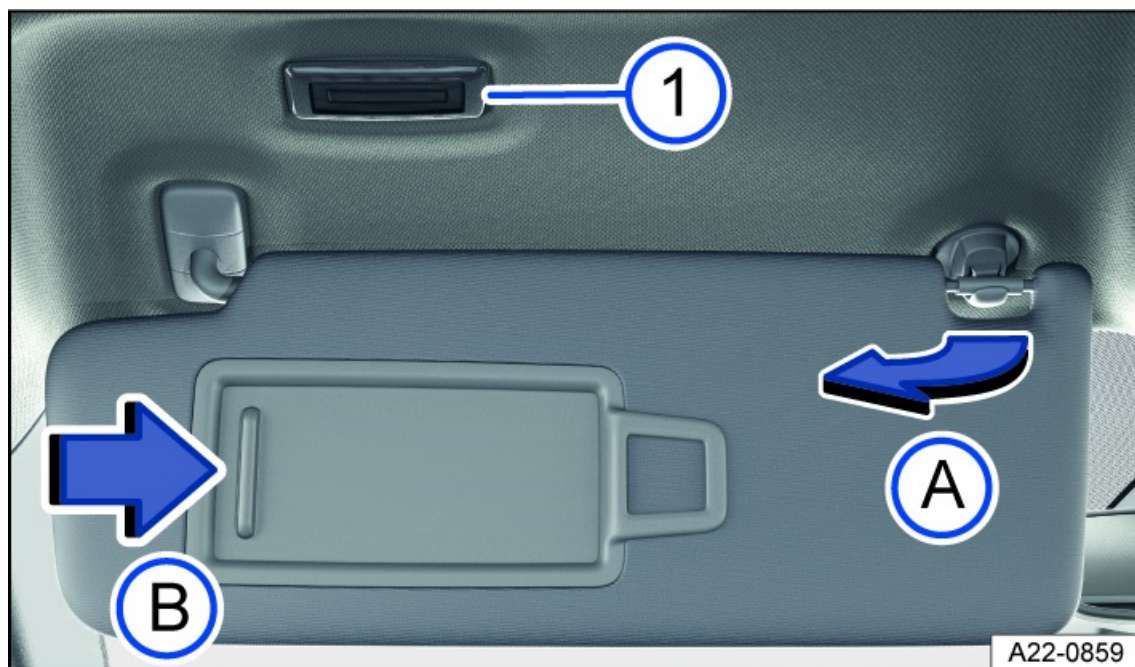

Fig. 110 In the front of the headliner: sun visor.
- Remove from the holder and tilt toward the door *fig. 110*.
When the sun visor is folded down, there is a vanity mirror located behind a cover. The lights *fig. 110* turn on when the cover *fig. 110* slides open.